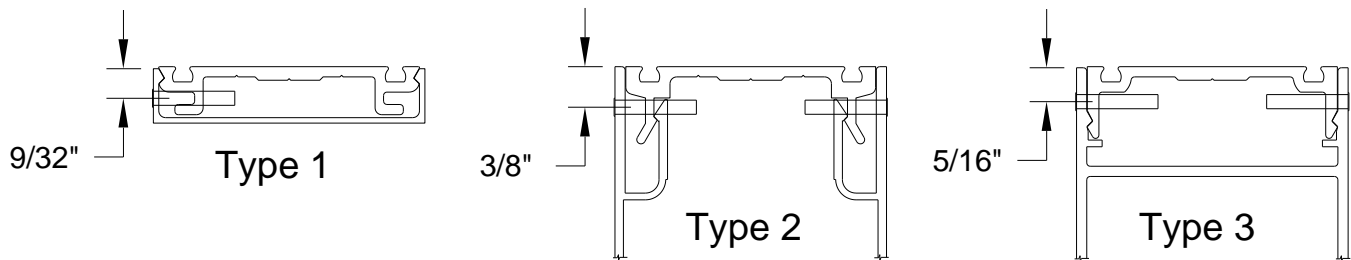

Figure 46: Face Cover Fabrication
- 19.7 Install vertical face covers. Using a wood block to protect the cover, apply with dead blow soft face hammer. Pin the vertical face covers once per length as required, concealing pin at a horizontal location. See *Figure 46* further information for fastening of covers.
20.2.2 See *Figure 46* for three common pressure plate and face cap installations, other custom profiles may be used and attached following this method. Type 1 may be used up to 4" in depth. Type 2 and 3 are for caps 4" or greater, with type 3 being preferred for any cap or cap assembly greater than 8". All caps shown below will be attached using a FS-317 Roll Pin. Drill cap and pressure plate with a 1/8" (.125") clearance hole.